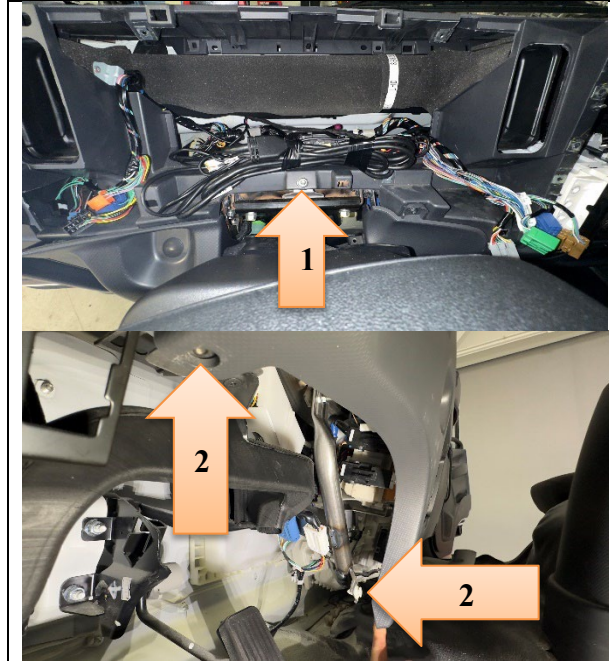

Figure 37
32. Install on the IP the one (1) nut removed in Step 12 and the two (2) clips removed in Step 18. (See Figure 37.) **Torque the nut to: 4.0 N•m (35 lb•in)**